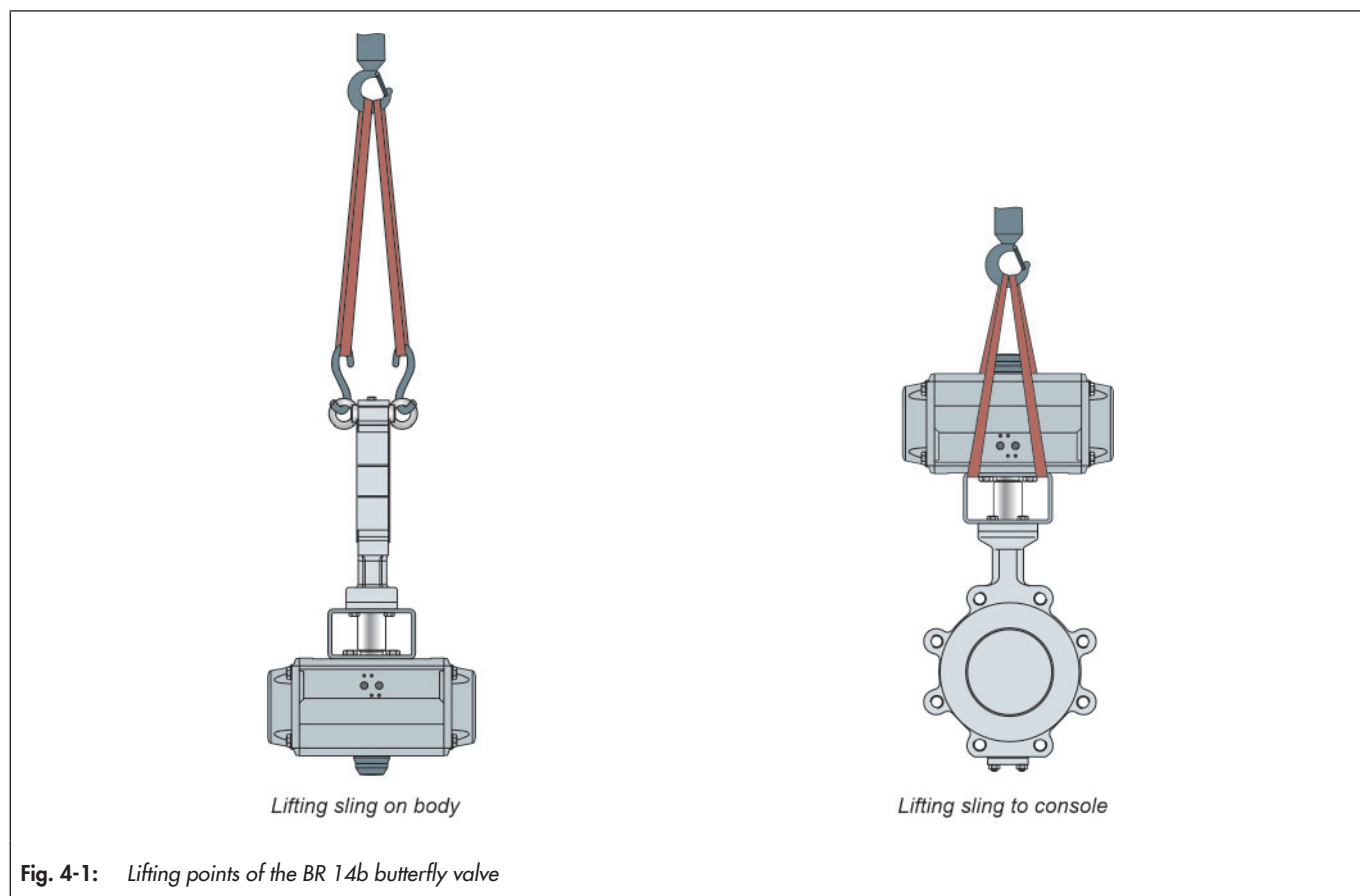

Fig. 4-1: Lifting points of the BR 14b butterfly valve
- ⇒ Use a hook with a safety clamp as the suspension element so that the sling cannot slip off the hook during lifting and transport, see Fig. 4-1.
- ⇒ Fasten a lifting sling to each suspension element (e.g. hook) of the crane or forklift, see Fig. 4-1. When doing so, ensure the safety, bearing capacity and length of the lifting slings.
- ⇒ Fasten a lifting sling to the bracket and the suspension element (e.g. hook) of the crane or forklift, see Fig. 4-1. When doing so, ensure the safety, bearing capacity and length of the lifting slings.